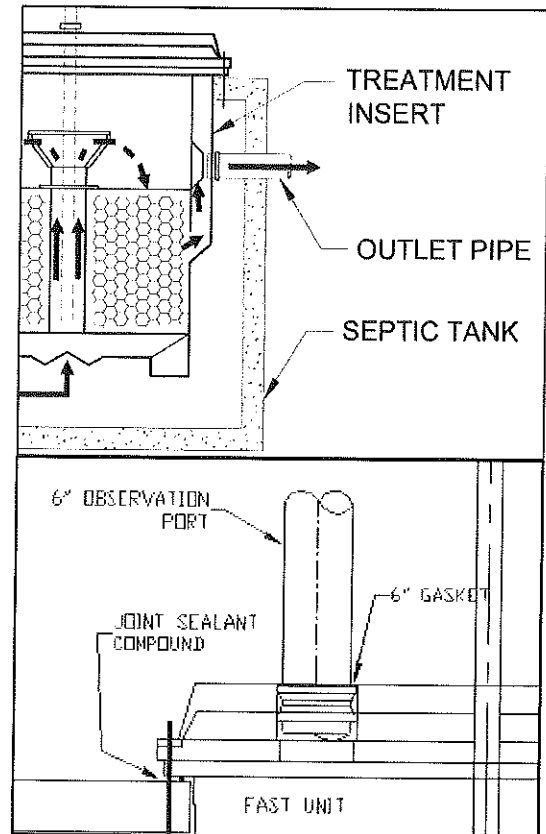

FIGURE 2 A&B
- b. If the tank is too small for a person to get inside with the unit to anchor bolt the leg extensions to the floor, stainless steel brackets may be used to attach the flange at the top of the liner to the tank (see Figure 2.B).